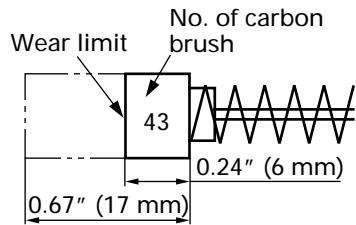

Fig. 5
3. Inspecting the carbon brushes (Fig. 5)
NOTE: Use HITACHI carbon brush No. 43 indicated in Fig. 5.